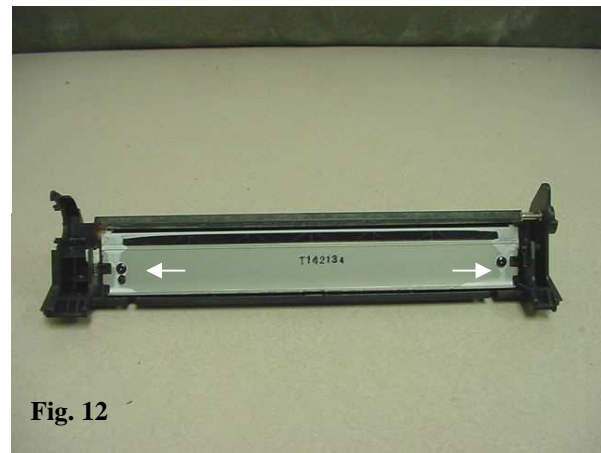

Fig. 12
9. Remove the two screws that secure the wiper blade (Fig 12). Remove the blade and replace if necessary. Remove all residual toner from the waste bin. Check Mylar recovery blade and ensure that it is not creased or damaged. Clean or replace PCR and OPC and reassemble in reverse order.